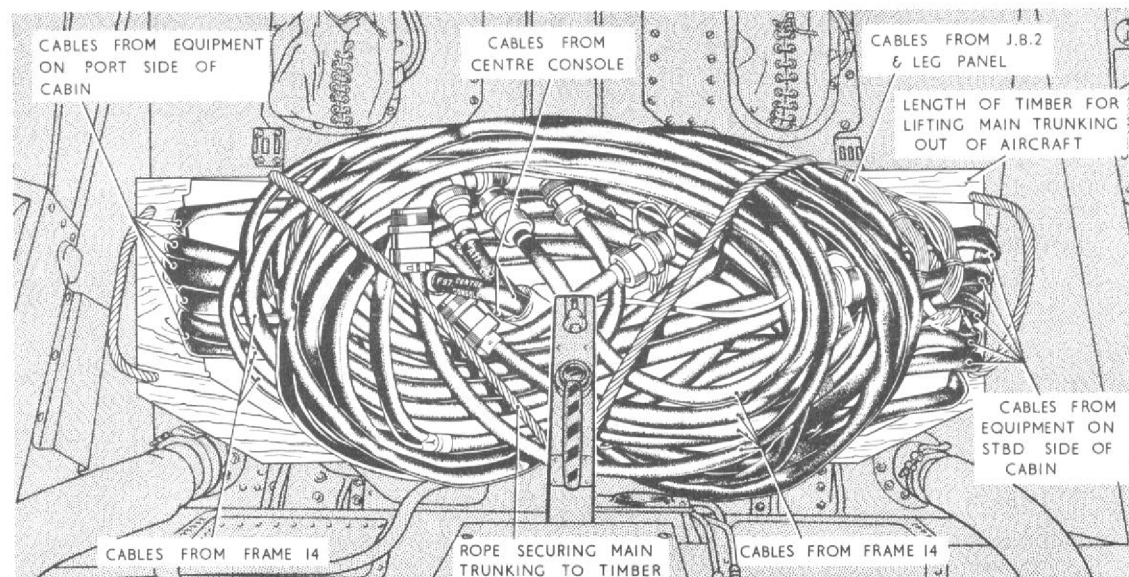

Fig.2 Main trunking ready for removal
- (8) Coil the cable assemblies disconnected from frame 14 and those from the equipment at the rear of the cabin back to the trunking, fold the assemblies over the trunking and secure to those already in position.
- (9) The trunking, complete with its cable assemblies (fig.2) may now be removed from the aircraft as a complete unit by two men positioned one on each side of the cabin.